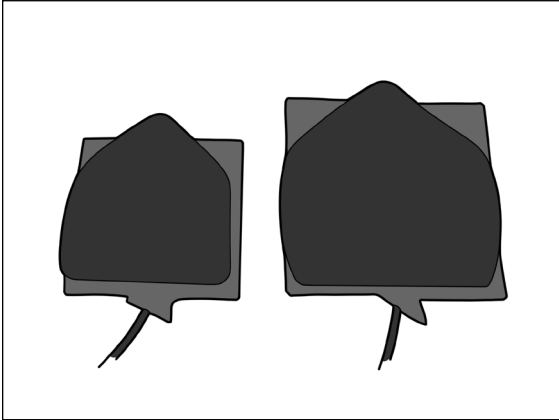

Fig. 1
1. Determine the appropriate size belt, bladder and paddle for the patient (Fig. 1).